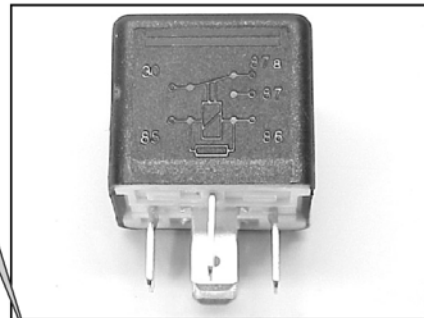

Figure 14 MVC-671
2. Switch: Terminals 30, 87, and 87a are actually part of a single pole, double throw (SPDT) switch. Terminal 30 is the common lead. The switch is spring loaded so that 30 and 87a are connected when the coil is not energized. When the coil is energized, the switch is "thrown" and 30 and 87 are connected (Figure 14).